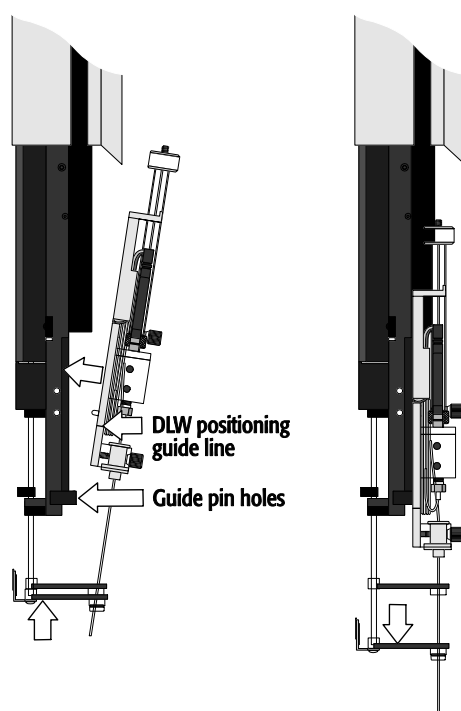

Figure 17. Inserting the DLW Syringe Holder Assembly into the Injection Unit.
1. Move the PAL Injection Unit aside manually to allow free movement of the syringe slider. Lower the syringe slider as shown in Figure 17 in order to gain space for installing the DLW Syringe assembly. Match the magnetic pins of the syringe holder using the counter positions on the syringe slider,